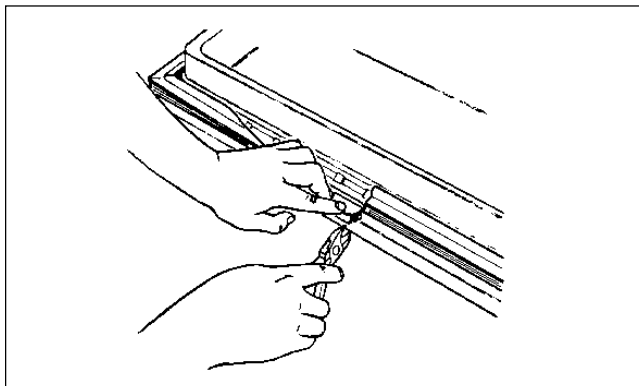

Figure 151
3. Start from the middle of one of the longer sides by carefully lifting the edge of the gasket. See Figure 151.